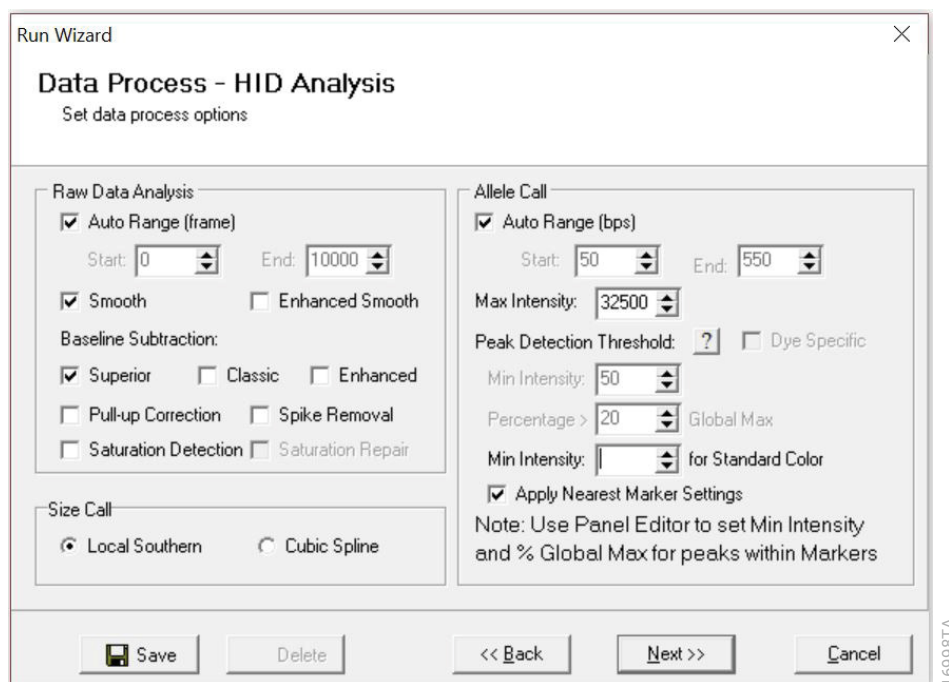

Figure 30. The 'Data Process' window for an analysis method.
9. The 'Data Process' window will appear (Figure 30). For the Raw Data Analysis, we recommend using Auto Range, Smooth, Superior Baseline Subtraction and Local Southern for the Size Call.